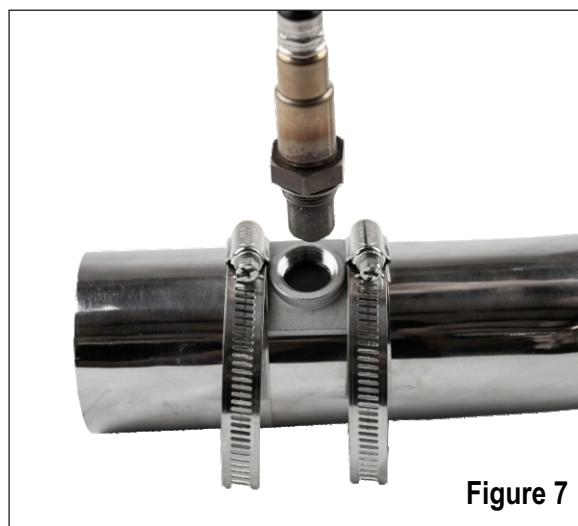

Figure 7
- H.** Install the sensor into the bung, see figure 7. Apply a small amount of anti-seize on the threads of the O₂ sensor. Be very careful not to get any anti-seize on the tip of the sensor itself because it will cause it to prematurely fail.